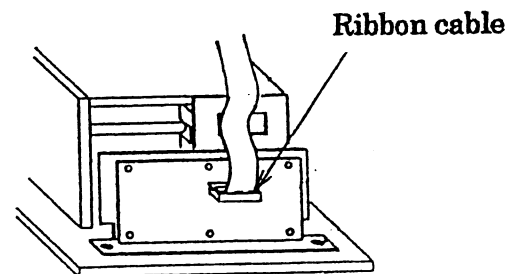

Figure 6
Step 8. Disengage the ribbon cable connector on the I/F board. (See Fig.6)